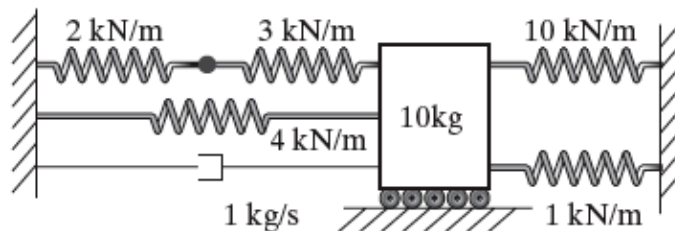

Figure P1.104
- 1.104** Calculate the natural frequency and damping ratio for the system in Figure P1.104. Assume that no friction acts on the rollers. Is the system overdamped, critically damped or underdamped?.